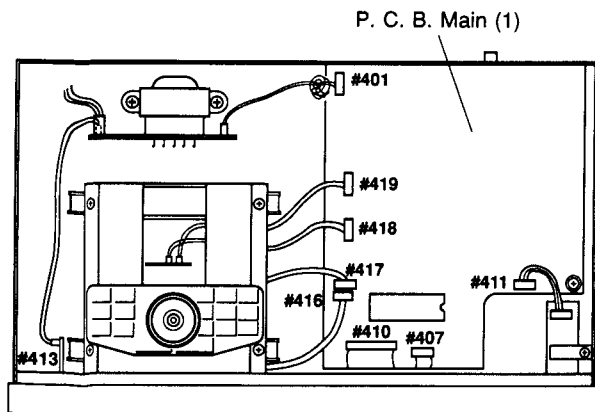

Fig. 2
- Remove 4 connectors (#407, #410, #411, #413) in Fig. 2.
- Remove 4 connectors (#416, #417, #418, #419) in Fig. 2.